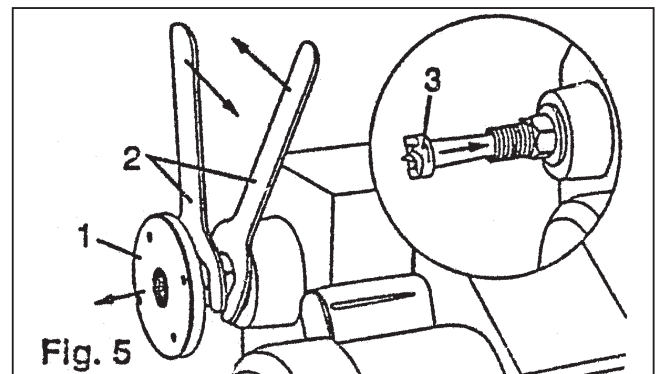

Fig. 5
1. Remove the faceplate (1) from the headstock spindle using the two wrenches provided(2) to separate the faceplate from the spindle nut. (Fig. 5)
2. Insert the headstock spur (3) in the spindle hole.